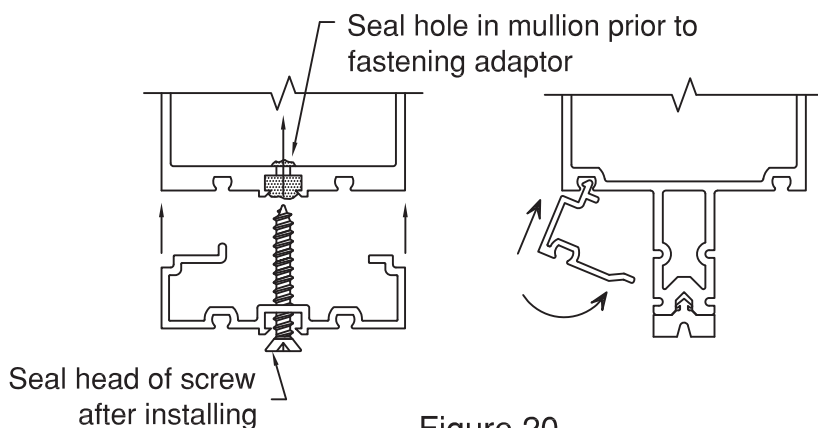

Figure 20
- A.1 Install vertical adaptors first, leaving an equal overlap into each pocket. For captured verticals and all horizontals, insert the hook side into the glazing reglet, then insert leg into reveal on mullion. **SEE FIGURE 20.** Refer to **VERTICAL SPLICING, page 14&15** if vertical mullion is spliced within a spandrel lite. Transition adaptors must be installed after mullion splice is sealed.
- A.2 For SSG mullions, install locator leg into one of the glazing reglets. Secure to mullion with FS-318 #12 x 1 3/4" Phillips Flat Head screw 3" from the ends and 12" O.C. **SEE FIGURE 20.**